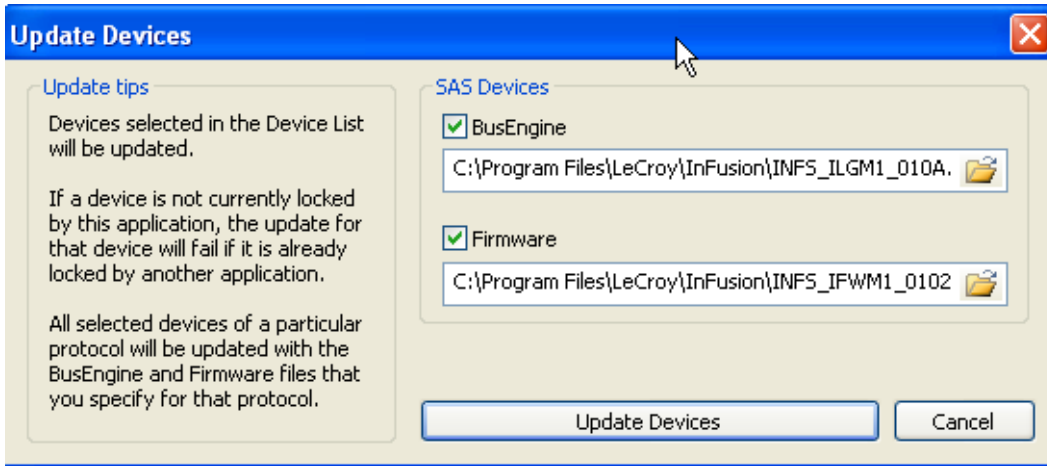

Figure 3.11 Update Devices Dialog Box
- Step 4** The Update Devices window closes and a progress indicator displays status of the update process (Figure 3.11). When update has completed, the display should reflect the updated firmware and BusEngine rev: